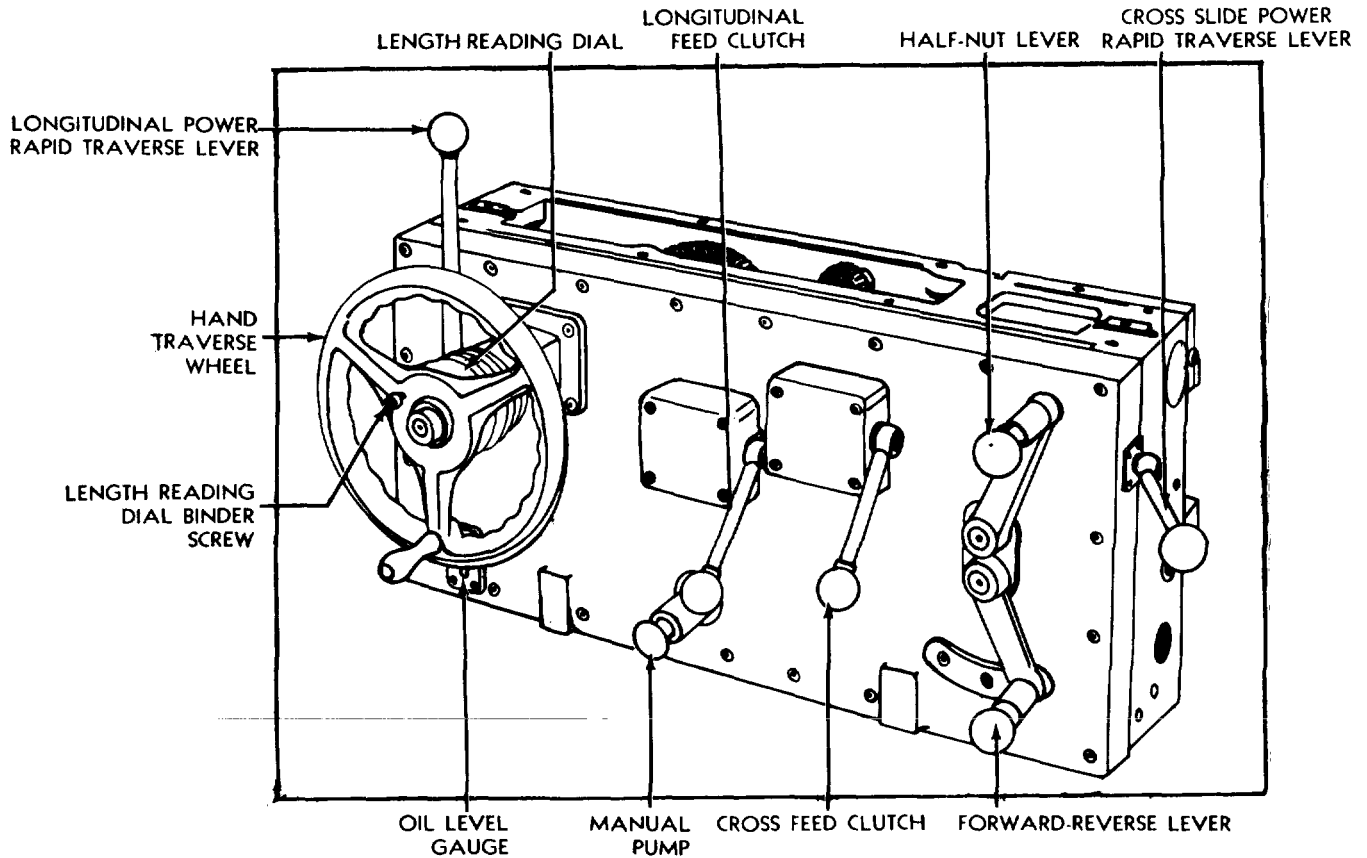
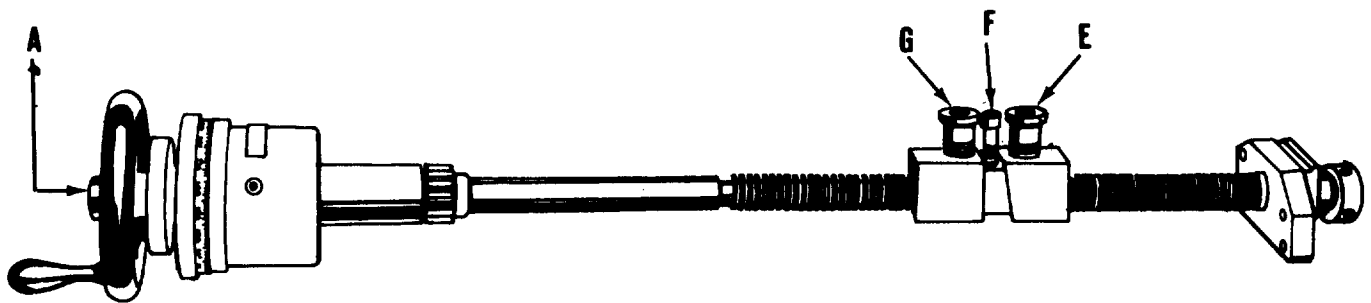

Figure No. 9-Front View of Apron
**Figure No. 11-Diagram of Power Traverse Safety Clutch Unit**
**APRON**--The apron, Figure No. 9, is driven by either the feed rod or the leadscrew, depending upon whether the double-bevel pinion or the half-nuts are engaged. The double-bevel pinion is actuated by the forward-reverse lever on the front of the apron and controls the direction of feeding, both longitudinal and cross. The half-nuts are engaged by the half-nut lever, but the direction of travel is controlled by the direction of rotation of the leadscrew. These two levers are interlocking and one must be in its
**4-WAY POWER RAPID TRAVERSE**-When the 4-way power rapid traverse is furnished two independently operated directional levers are used. The carriage longitudinal traverse is actuated by a convenient control lever at the left side of the apron, while the control lever for the tool rest cross travel is located at the right side of the apron, figure No. 9. These levers are separated to eliminate the possibility of engaging the wrong traverse and also to permit both traverses being operated simultaneously. A further safety feature is provided by spring actuated safety clutches which control the traverses. These disc clutches are engaged and disengaged by spring action applied by the actuation of the control levers, as a result the traverses operate only while the operator holds the levers in operating positions. Should the carriage or tool rest be accidentally run into an obstruction the clutches will simply slip. See Figure No. 11.